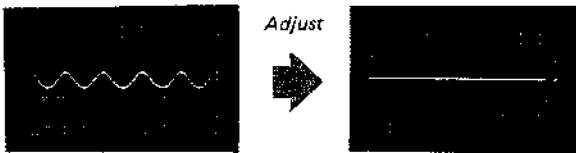
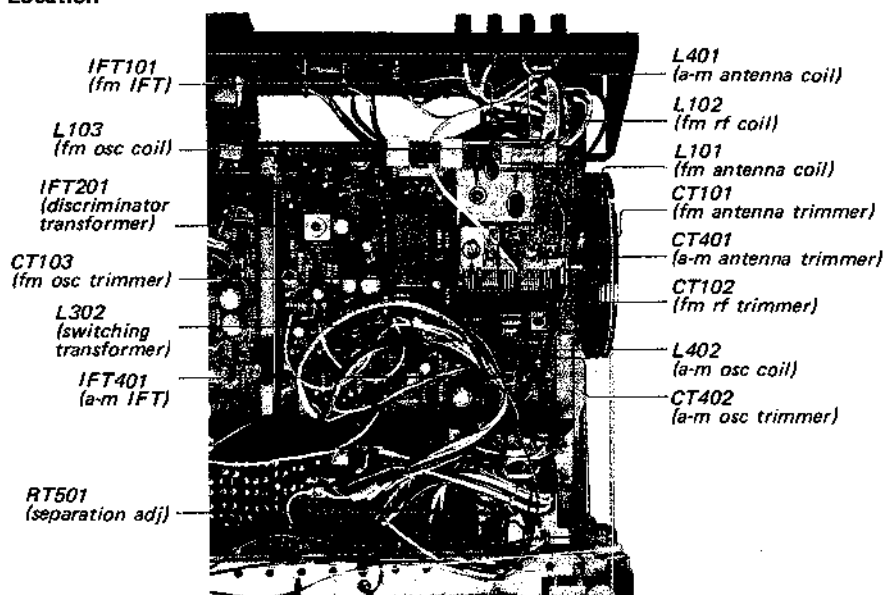
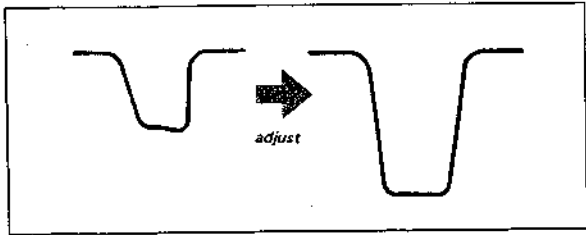
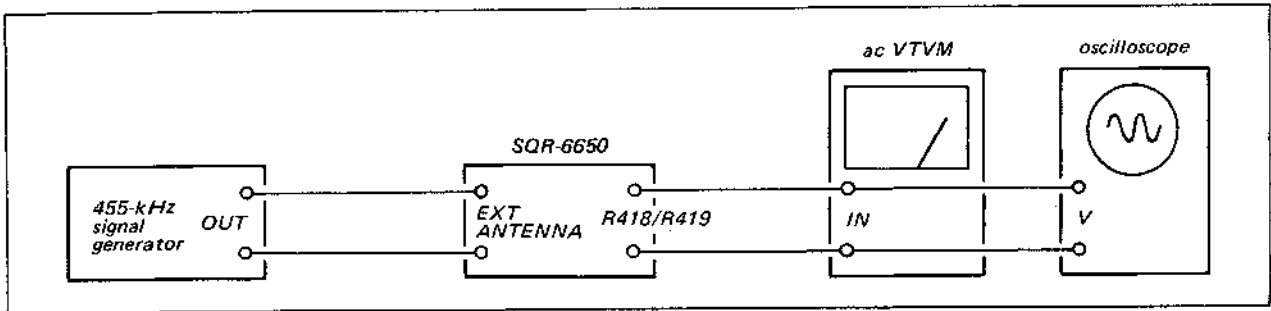

Fig. 3-8. Fm discriminator alignment output response
Fig. 3-10. Adjustment parts location
Fig. 3-16. A-m i-f response
Fig. 3-17. A-m i-f alignment test setup by rf signal generator
4. Turn the top core (secondary side) of discriminator transformer IFT201 (see Fig. 3-10) with an alignment tool to obtain the "S" curve response, and equalize the positive and negative peaks of the "S" curve response as shown in Fig. 3-6.
5. Adjust i-f transformer IFT101 (see Fig. 3-10) and primary side of discriminator transformer (IFT201 bottom core) to obtain a maximum-amplitude "S" curve response.
4. If the discriminator transformer IFT201 (see Fig. 3-10) is not aligned correctly, 400-Hz ripple will be observed as shown in Fig. 3-8.
5. Turn the top core of discriminator transformer IFT201 with an alignment tool to obtain a minimum indication on the oscilloscope as shown in Fig. 3-8.
7. Turn the core of fm IFT101 (see Fig. 3-10), and the primary side of discriminator transformer (IFT201 bottom core) to obtain the maximum output.
2. Precisely tune the set to the SG carrier frequency then turn the top core of switching transformer L302 (see Fig. 3-10) to obtain maximum output at the left channel.
5. The output-level to residual-level ratio represents the separation. Turn separation control RT501 (see Fig. 3-10) for minimum residual level. Check the right channel for separation.
5. Turn the top core of a-m IFT401 (see Fig. 3-10) to obtain a maximum and symmetrical response as shown in Fig. 3-16.
3. With the equipment connected as shown in Fig. 3-17, turn the top core of a-m IFT401 (see Fig. 3-10) to obtain the maximum output.